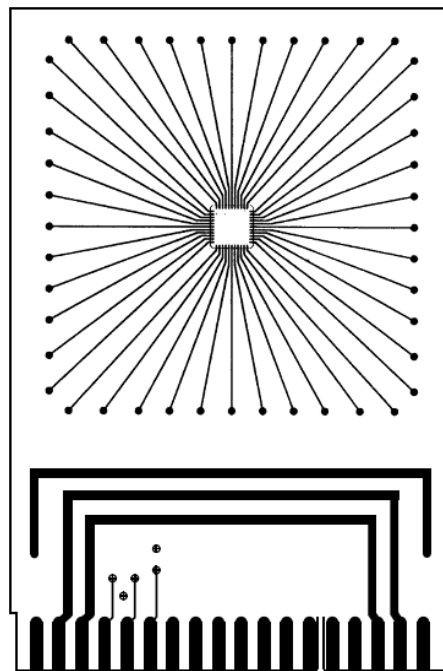

Figure 1. Top View - Typical Test Board
- Figures 1 & 2 below show a typical test board from Top and Side Views.